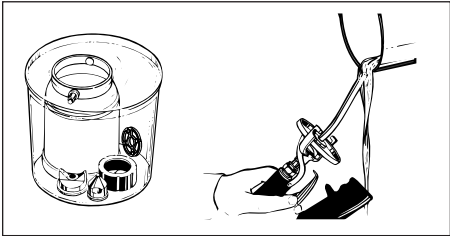

Figure 16 - Cleaning The Spray Gun Parts
3. Place the parts and the paint cup in a bucket or other suitable container. Soak the parts in a suitable solvent, or in soap and water if latex was used (See Figure 16). To clean the gun, flush a suitable cleaning solvent through the material tube until the solution begins to clear. Repeat the procedure from the nozzle end of the gun (See Figure 16).